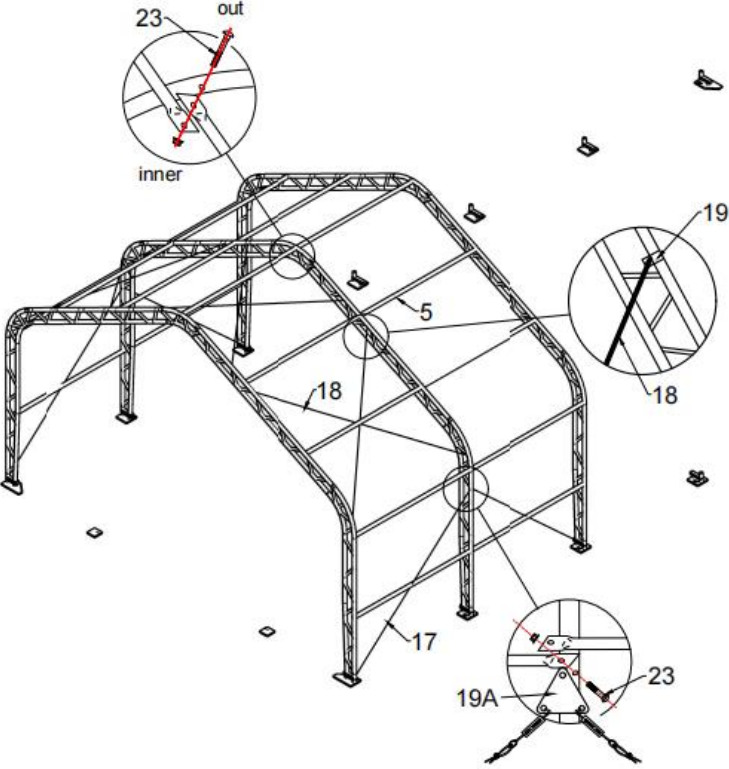

Figure 6
- Connect purlin (No.5) to arch by using carriage bolt 10x90mm (No.23) by turns (see Figure 6), then connect the steel wire (No.17 and No.18) on top and side by using clip